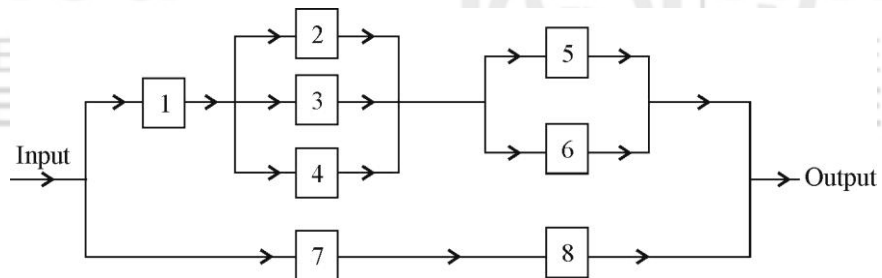

Fig. 14.10: Reliability block diagram for Example 8.
**Example 8:** Evaluate the reliability of the system for which the reliability block diagram is shown in Fig. 14.10, for a mission of 100 hours. Assume that all components are independent and the reliability of each component is given for a mission of 100 hours as follows: